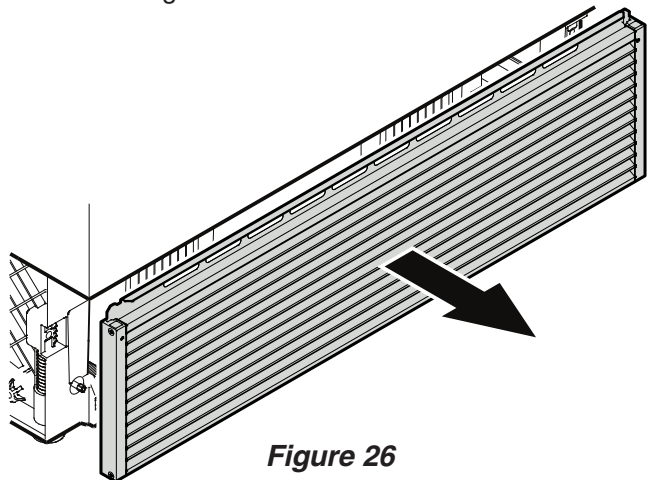

Figure 26
- Open the bottom freezer drawer and remove the ventilation grille by pulling forwards - **Figure 26**. The grille is supported magnetically so no tool is required for removing.